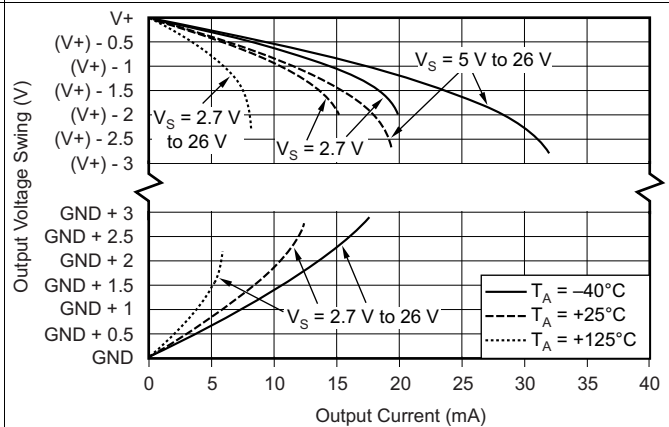

图 10. Output Voltage Swing vs Output Current
(1) RTI = referred to input.
(2) Not production tested.
(3) See Figure 10 in *Typical Characteristics*.